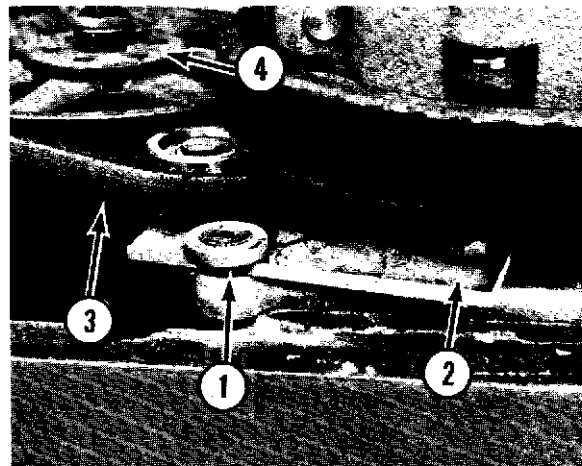

Fig. 12-2
- D. Loosen the holding screw (1, Fig. 12-2) and the pivot screw (2, Fig. 12-2). Release the belt tension.
- E. Remove the "V" belt (3, Fig. 12-2).
2. Overload Slip Clutch. (4, Fig. 12-2).
- (1) (V-1401) Remove the Flexa-Gear.
- (2) (V-1401) Loosen the holding screw (1, Fig. 12-2) and the pivot screw (2, Fig. 12-2). Release the "V" belt tension.
- (3) (V-1401) Remove the "V" belt (3, Fig. 12-2) from the driven pulley.